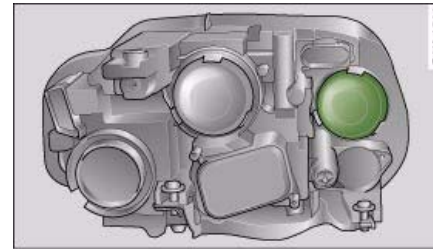

Fig. 290 Headlight unit: Rubber cap is highlighted
- Take off the rubber cap ⇒ fig. 290 ⇒ ⚠ in “Changing bulbs” on *page 304*.